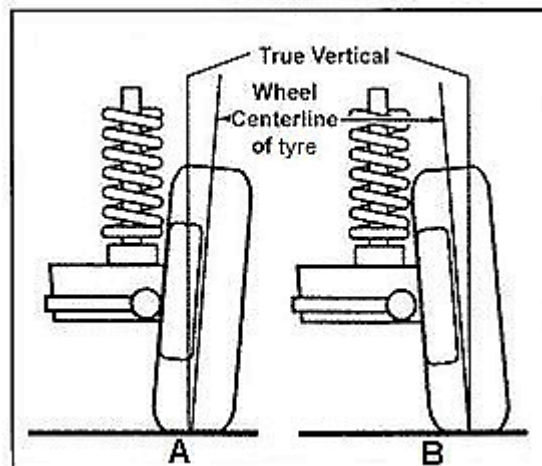

FIGURE 10.3
- 10.3 The diagrams in the FIGURE 10.3 below show two possible alignment methods of vehicle wheels with the road. Identify diagrams **A** and **B**.
- 10.4 Give TWO advantages of each of the diagrams (**A** and **B**) in FIGURE 10.3 above, when applied in a vehicle suspension system. (4)